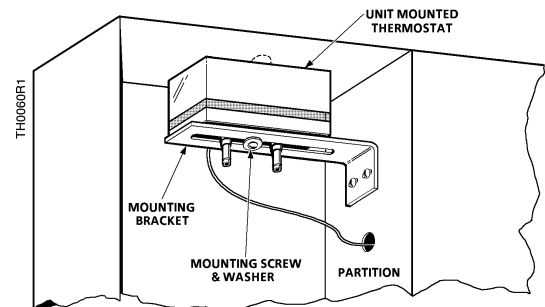

Figure 1. Thermostat and Mounting Bracket.
1. Fasten the mounting bracket to the partition with two sheet metal screws included with the thermostat. *Figure 1* shows a typical installation.